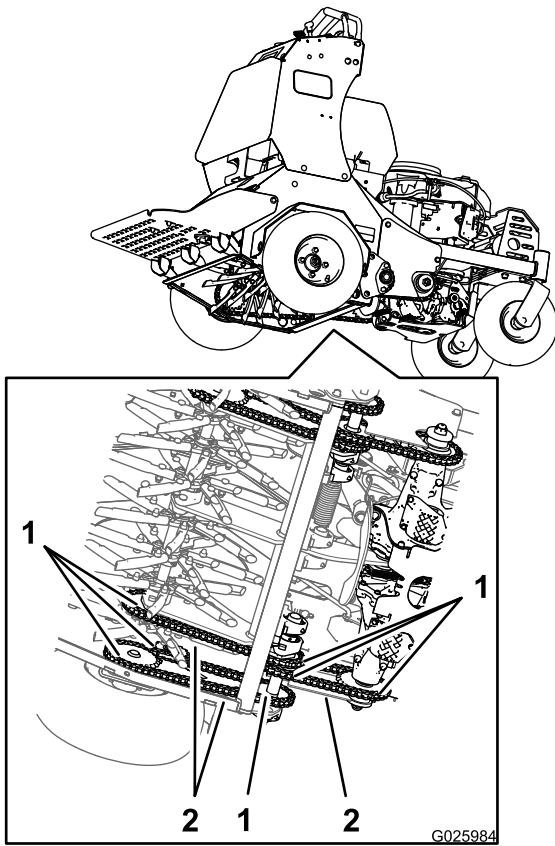

Figure 14
2. Inspect sprockets for wear and replace as required (Figure 14).
5. With the engine running, slowly move the traction-control levers forward and lubricate all 6 chains (Figure 14).
2. Check the chain tension (Figure 14) at both sides of the machine.